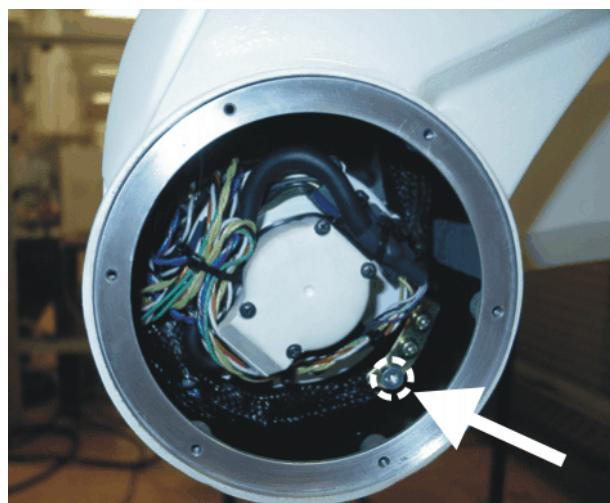

Fig. 10-28: Screw on A3
1. Remove the round motor cover on A3. Remove the screw shown (3 mm Allen key). (>>> Fig. 10-28)